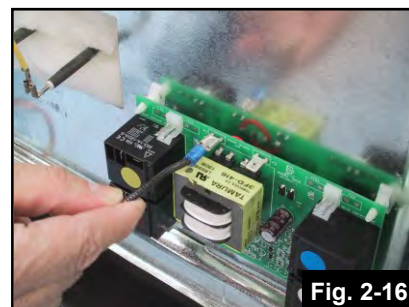

Fig. 2-16
1. Connect the BLACK wire to terminal P1 on the Safe-T-element® Controller. (Fig.2-16)